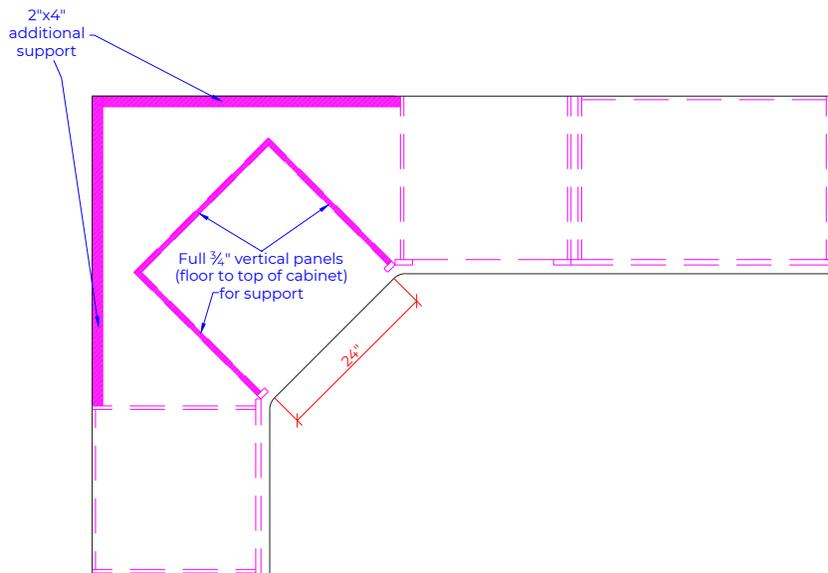

FIGURE 16
15. For Cambria countertops installed over openings for appliances (such as a dishwasher), vertical support is required on three sides. See Figure 16.